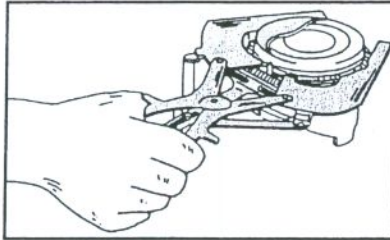

Fig. 1.33 - Removal or Installation of piston rings with a pair of piston ring pliers. Never expand rings more than necessary to prevent breakage.
- Remove the piston rings one after the other from the pistons, using a piston ring pliers if possible (Fig. 1.33), if the rings are to be re-used, mark them in accordance with their pistons and position.